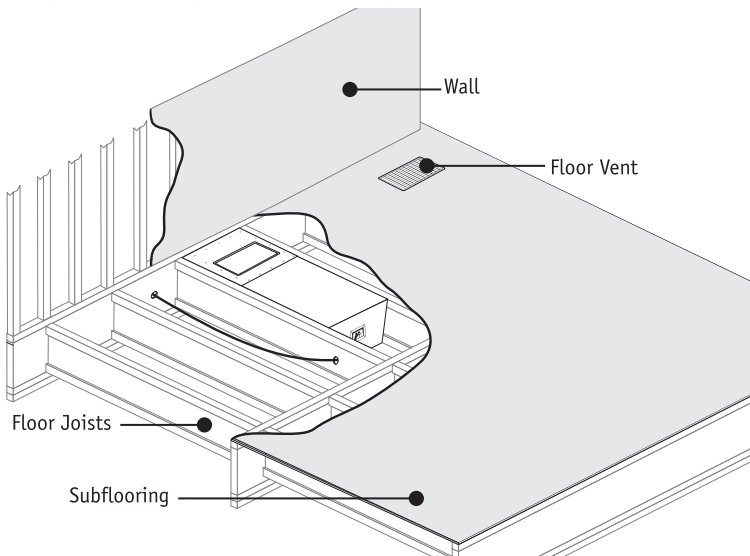

Figure 2
2. Place the subwoofer with the baffle end towards the wall and in between two floor joists. The top of the subwoofer should be flush with the top of edge of the floor joists as shown in figure 2.